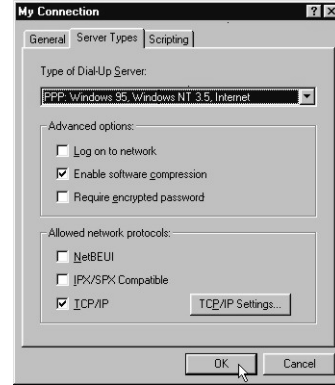

Figure 21 - Server Types Tab
23. In the "Allowed Network Protocols:" area check "TCP/IP". Uncheck all other options. Click OK. (Fig. 21)